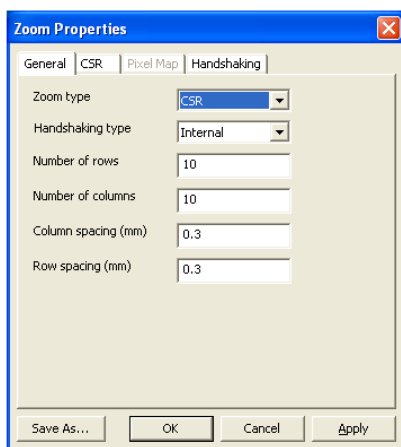

Figure 7.29. CSR –General
1. Choose the zoom type in the **General** tab (see Figure 7.29):